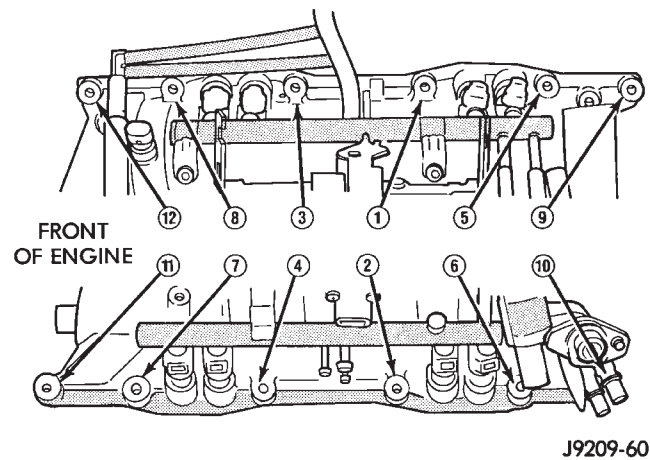

Fig. 14 Intake Manifold Bolt Tightening Sequence
(10) Carefully lower intake manifold into position on the cylinder block and cylinder heads. Use the alignment dowels in the cross-over gaskets to position the intake manifold. After intake manifold is in place, inspect to make sure seals are in place.
(11) The following torque sequence duplicates the expected results of the automated assembly system (Fig. 14).